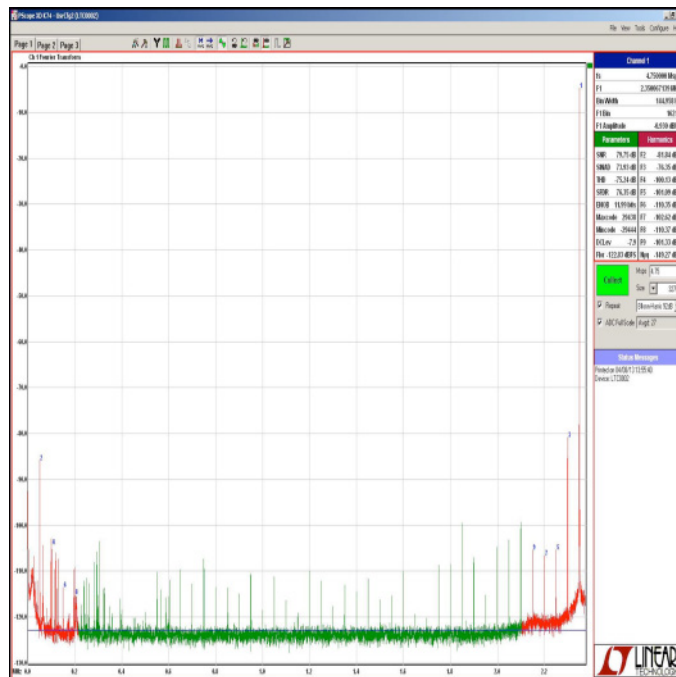

Figure 2. DC1996A PScope Screenshot
- Click the Collect button (Figure 2) to begin acquiring data. The Collect button then changes to Pause, which can be used to stop data acquisition.